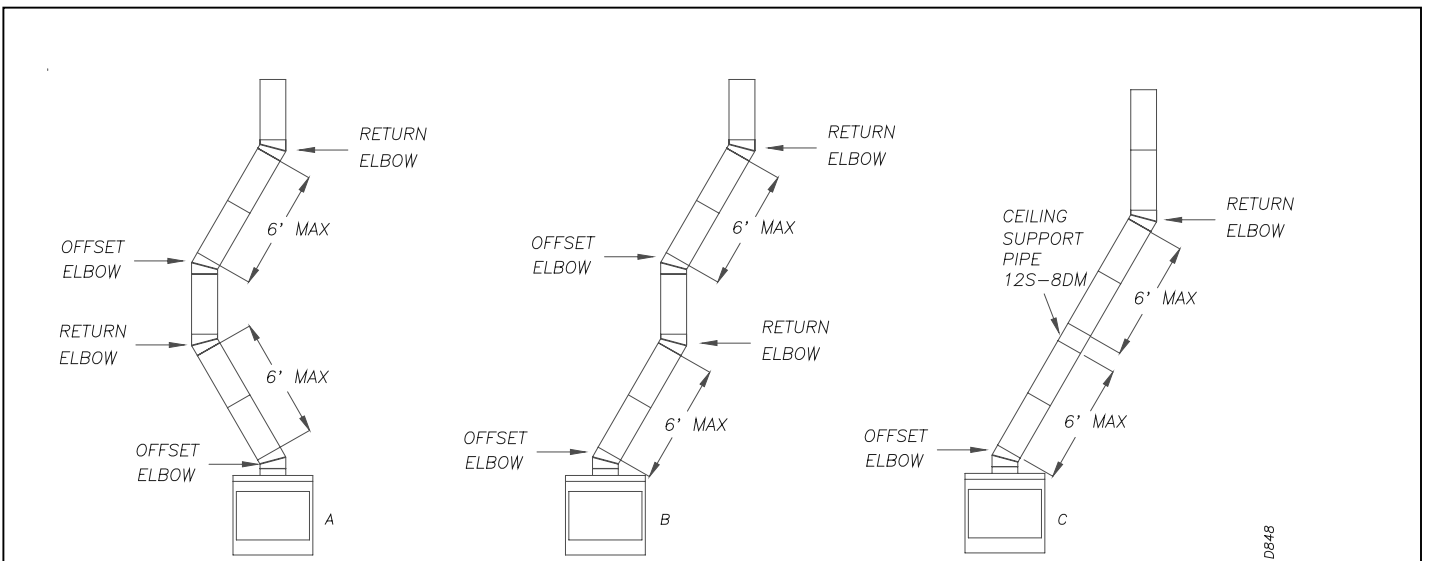

Figure 6 *TYPICAL OFFSET INSTALLATION
1. To achieve desired offset, you may install combinations of 12", 18", 24", 36" and 48" length of double wall pipe (SEE SINGLE OFFSET CHART AND FIGURE 6).
3. Maximum length of pipe between supports (return elbow or 12S-8DM) is 6' of angle run. Maximum of two (2) 6' angle run sections per chimney system (see figure 6).